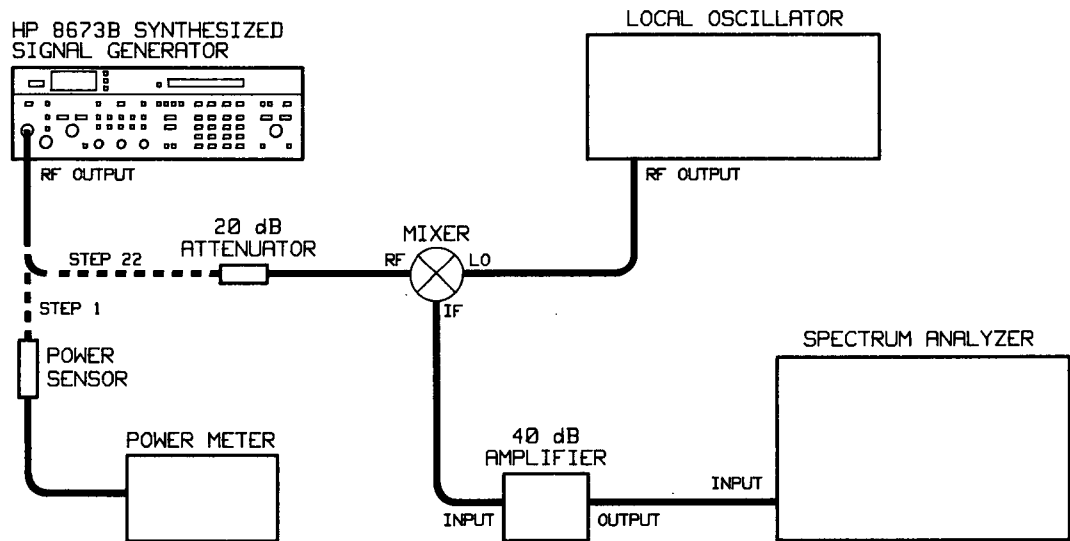

Figure 4-22. Absolute Level Accuracy Test Setup
1. Connect the equipment as shown in Figure 4-22.
22. Disconnect the power meter and connect the Signal Generator to the attenuator and mixer as shown in Figure 4-22.